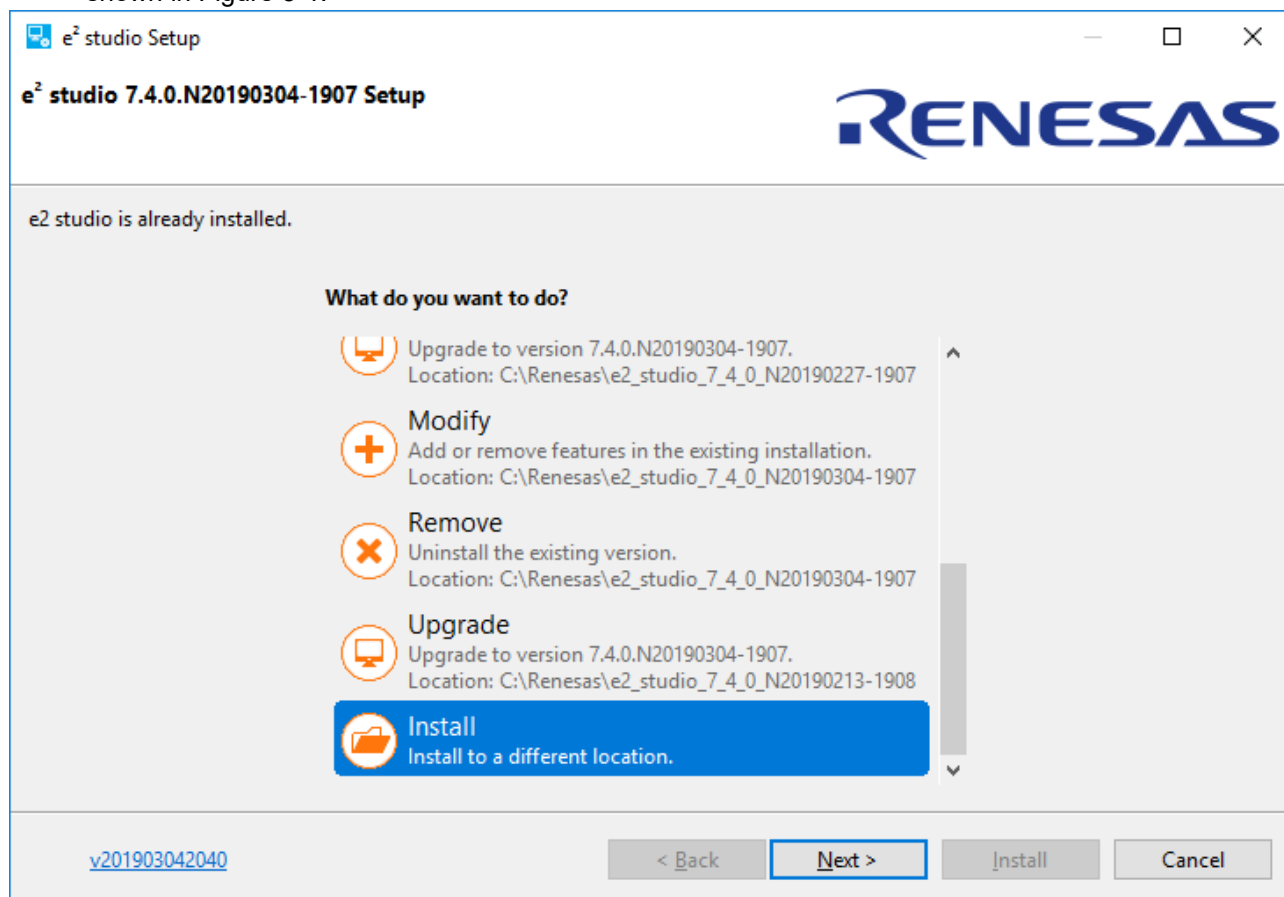

Figure 5-1 Adding FreeRTOS awareness function (new e² studio installation) 1
- Launch e² studio installer. If e² studio has already been installed, select “Upgrade” or “Install”. This is shown in Figure 5-1.